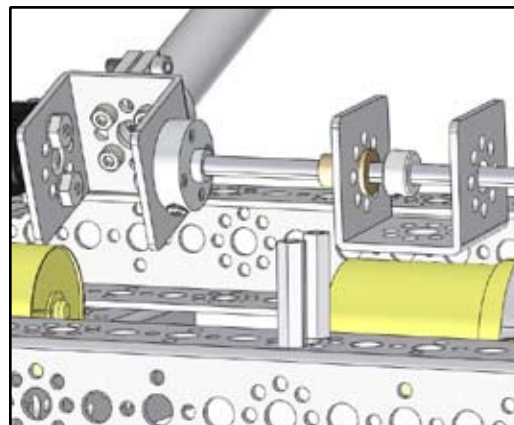
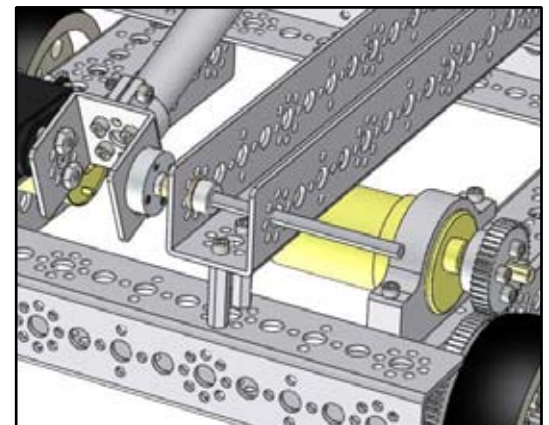

Figure B17
Figure B18
- 6) Find the second piece of channel you want to use. Another 32 mm piece is good if you don't want it to extend over either side of the chassis channel (Figure B17). Alternatively, a longer piece can be used to reach the other side of the chassis and be another part of the construction (Figure B18).